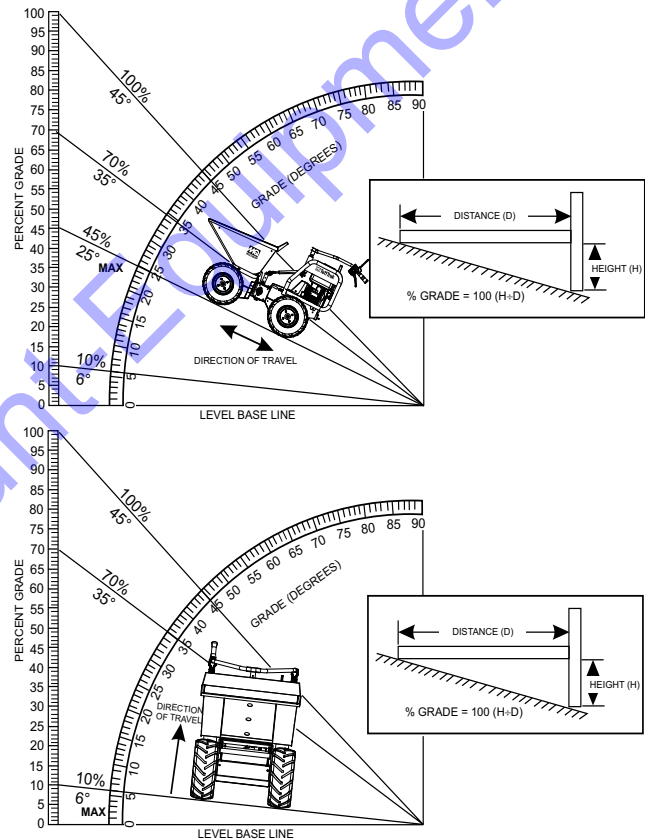

Figure 28. Determining Grade of Slope
1. When traveling on a slope, it is necessary to determine the grade of the path. The TB11G/E buggies can travel up or down slopes not exceeding 25° (Figure 28). **DO NOT** travel on steeper slopes.
To determine the % grade of your path of travel, use the formula and graph in Figure 28.